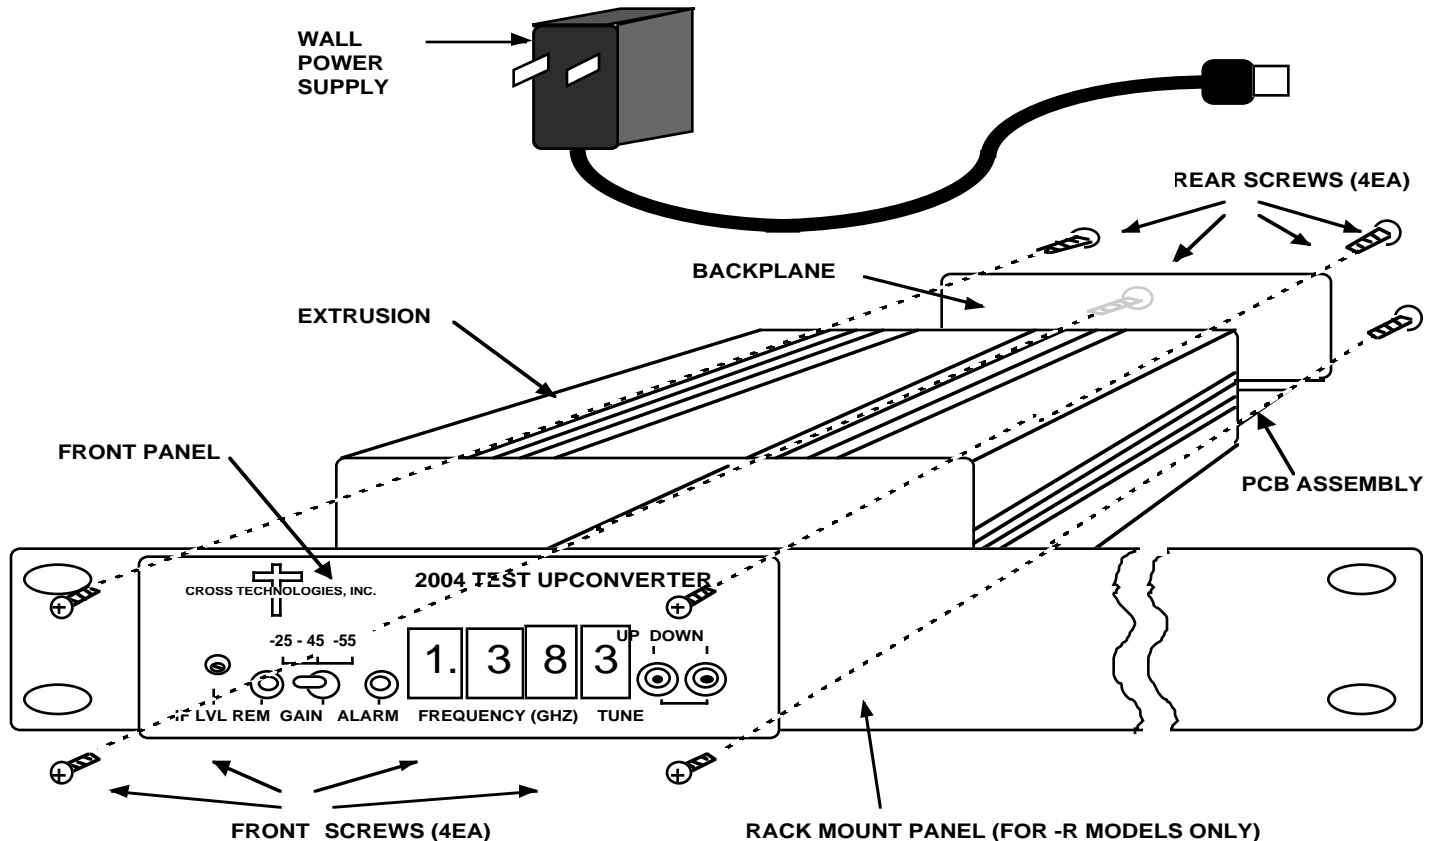
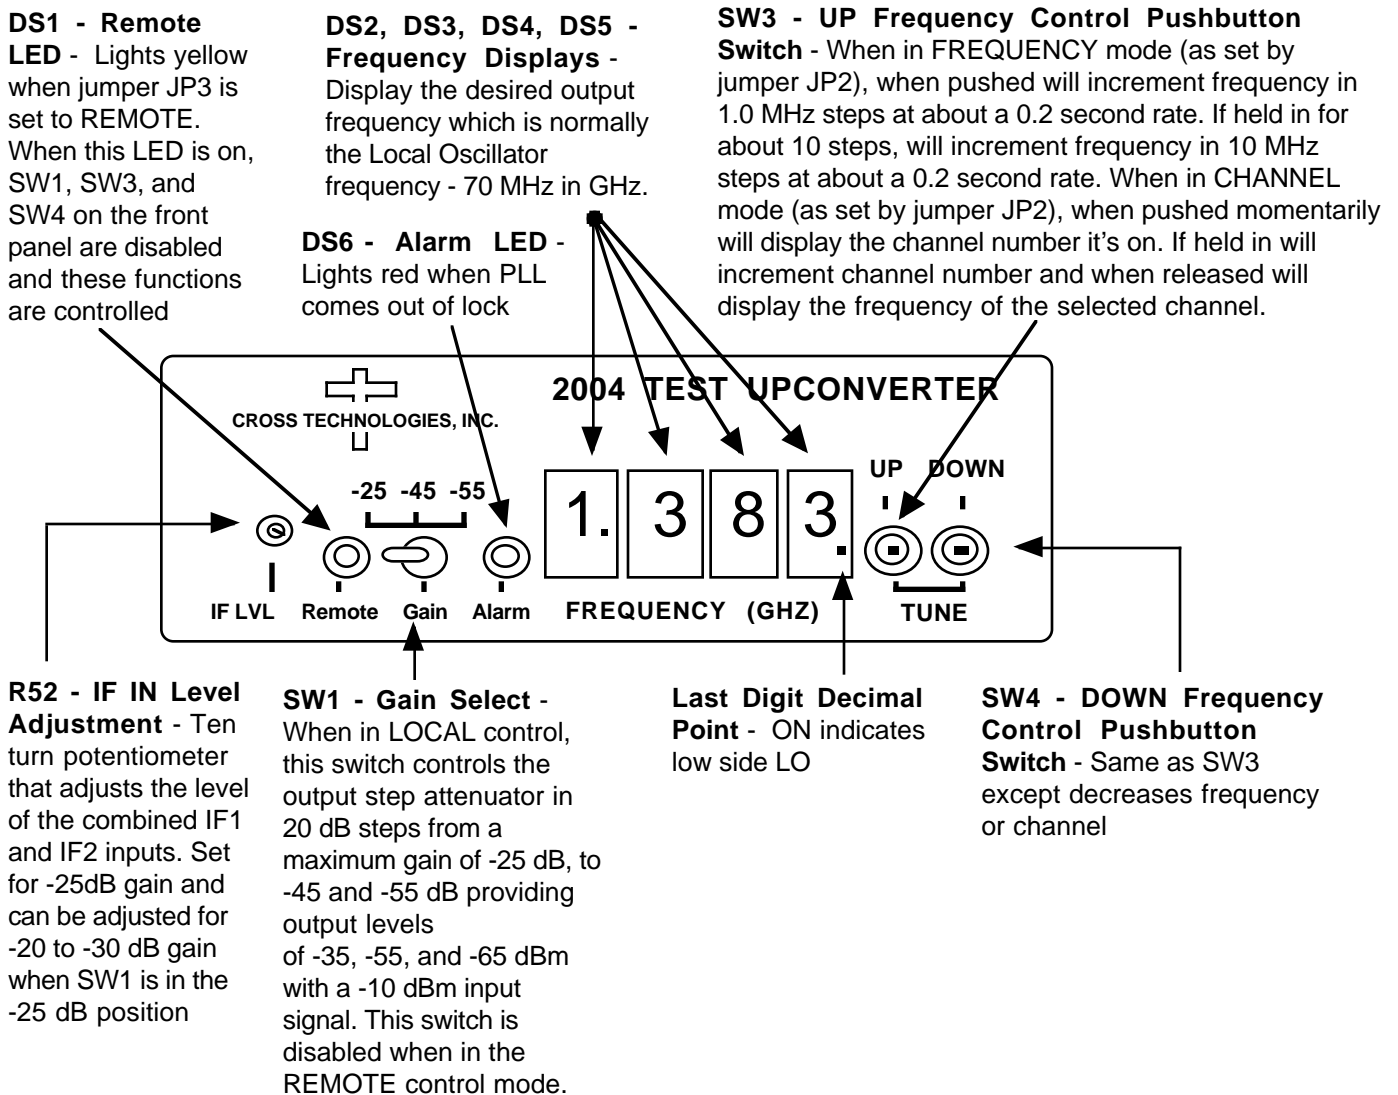
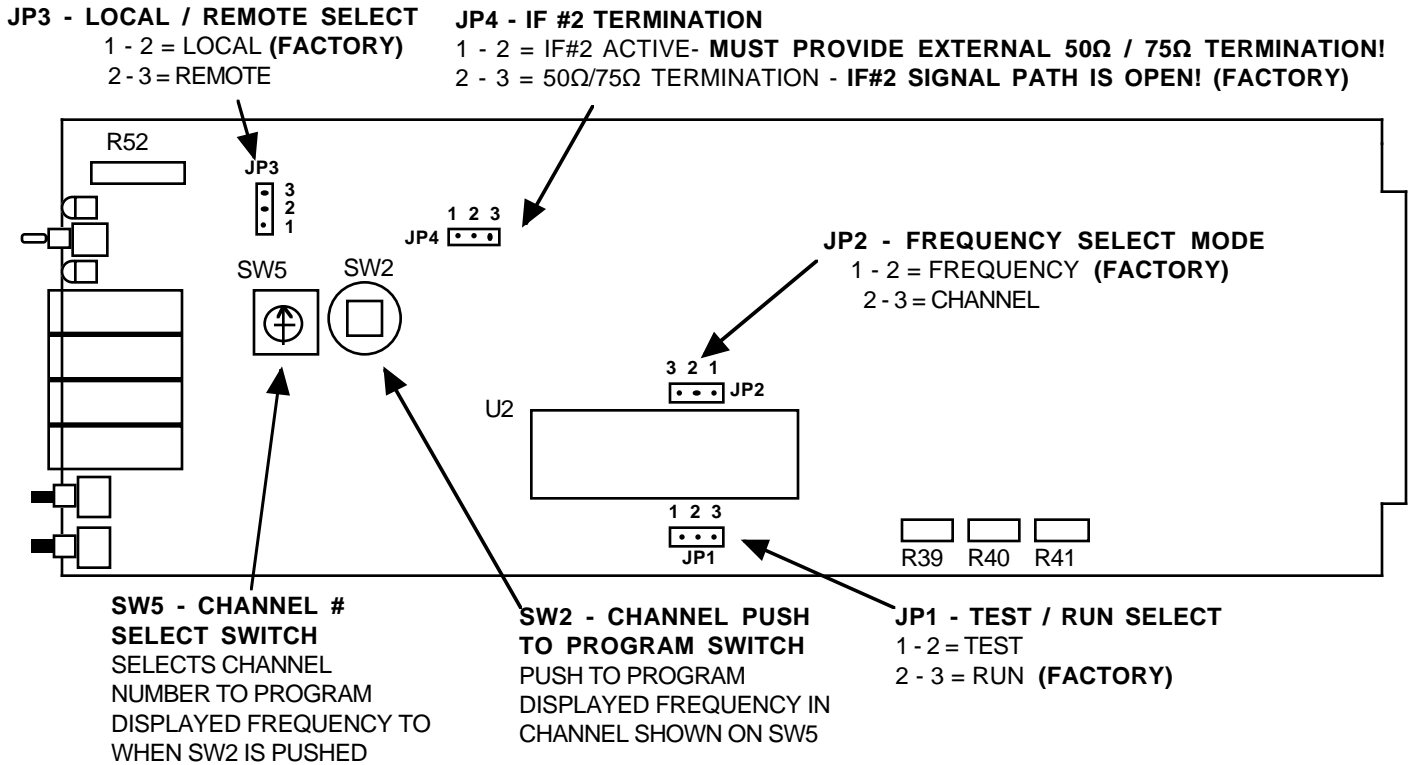

FIGURE 2.1 SERIES 2000 ASSEMBLY DRAWING
FIGURE 2.2 2003 Front Panel Controls and Indicators
FIGURE 2.4 2003 and 2003R On-Card Jumpers and Controls (See Section 2.4 for instructions on removing the PCB from the extrusion)
2.1 Mechanical - The 2003 and 2003R are packaged in an aluminum extrusion. The 2003R is mounted on a 1.75" X 19" panel that can be mounted to a rack using the 4 holes at the ends. Both units derive $\pm 15V$ from the wall power supply or an external regulated power supply such as the Cross Technologies, Inc. model 2000-01. (See Figure 2.1)
2.2 Controls and Indicators - Figure 2.2 shows front panel controls and indicators.
2.4 Accessing and Changing On-Card Jumpers and Controls - Figure 2.4 shows jumpers (with factory settings) and other on-card controls. To remove the printed circuit board (PCB) from the extrusion for access to the jumpers and controls:
- 1.) Remove four (4) **rear panel screws** (see Figure 2.1).
- 3.) With the **wall power supply disconnected**, move jumpers to the desired positions (Figure 2.4).
- 7.) Install four (4) **rear panel screws**.
- 1.) If required, check that on-card jumpers are set to the desired positions (Figure 2.4)
- 2.) Connect the wall power supply to the 2003 and the wall power supply to 115 VAC, 60 Hz (Figure 2.1)
- 3.) Connect a -10dBm signal to IF #1 In (Figure 2.1, Figure 2.3)
- 4.) Connect a -10dBm signal to IF #2 In (Figure 2.1, Figure 2.3). If this port is not used it must be terminated in 50Ω/75Ω by connecting on-card jumper JP4 in the 2-3 position (Figure 2.4).
- 5.) Set the desired frequency by pushing SW3 or SW4. If numbers 0 to 9 appear when pushing SW3 or SW4, the 2003 is set for the channel mode (with on-card jumper JP4, Figure 2.4). See section 2.5.2 for frequency setting information.
- 6.) Set SW1 for the desired gain (Figure 2.2).
- 7.) Be sure DS1 and DS6 are off (Figure 2.2).
- 8.) If needed, R52 can be adjusted (Figure 2.2) for input signals that are different than -10 dBm (-5 to -15 dBm). Note that this adjusts the levels of both IF #1 and IF #2 and uncalibrates the 2003 from its -10 dBm input setting.
- 2.) **To go to the change modes function**, simultaneously **press and release both the Up and Down pushbutton** switches (SW3 and SW4, see Figure 2.2). The current IF frequency is shown on the displays.
- 5.) **To check the selected IF frequency**, momentarily **press and release both the Up and Down pushbutton** switches (SW3 and SW4, see Figure 2.2)
2.5.4 Frequency Setting, Channel Mode - A second tuning mechanism is channel selection. This is accomplished when the on board three-pin jumper (JP2) (Figure 2.4) is set to the "channel" position. Ten preset channels (0-9) can be selected as follows:
1. The 2003 PCB is removed from the extrusion (see section 2.4 for instructions) to access the channel selecting decimal switch (SW5) and the push to program switch (SW2) (Figure 2.4). With the display mode jumper (JP2) set in the frequency mode, the frequency set switches (SW3,SW4) are pushed to the frequency desired (Figure 2.2).
2. The decimal switch (SW5) is set to the channel number desired to be programmed (Figure 2.4).
3. Push programming button (SW2) to program the displayed frequency into that channel number (Figure 2.4).
5. When finished, set JP2 (Figure 2.4) in the "Channel" position if this tuning mechanism is desired.
2.5.5 Remote Operation - Frequency control and setting of the output attenuator can be remotely commanded from an external (not supplied) PC using a simple DOS program. To place the 2003 in the Remote mode, place on-card jumper JP3 in the REMOTE (pins 2-3) position (Figure 2.4) and observe yellow LED DS1 (Figure 2.2) is on. Serial ASYNC (8N1) data is received via RS232C receiver U4 and sent via RS232C transmitter U13 at a 9.6kB/s data rate. When in the remote mode, either frequencies or channel numbers can be provided, but programming the frequencies of the channels can only be done locally. When in the remote control mode, the selection of U6 and consequently the output attenuator U16, U24 is controlled through the remote serial port disabling the function of front panel attenuator control switch SW1 and providing gain selection of -35 dB, -55 dB or -65 dB.
3.2.3 Frequency Setting, Channel Mode - A second tuning mechanism is channel selection. This is accomplished when the on board, but not front panel accessible, three-pin jumper (JP2) (Figure 2.4) is set to the “channel” position. Ten preset channels (0-9) can be selected as follows:
5. When finished, set JP2 (Figure 2.4) in the “Channel” position if this tuning mechanism is desired.